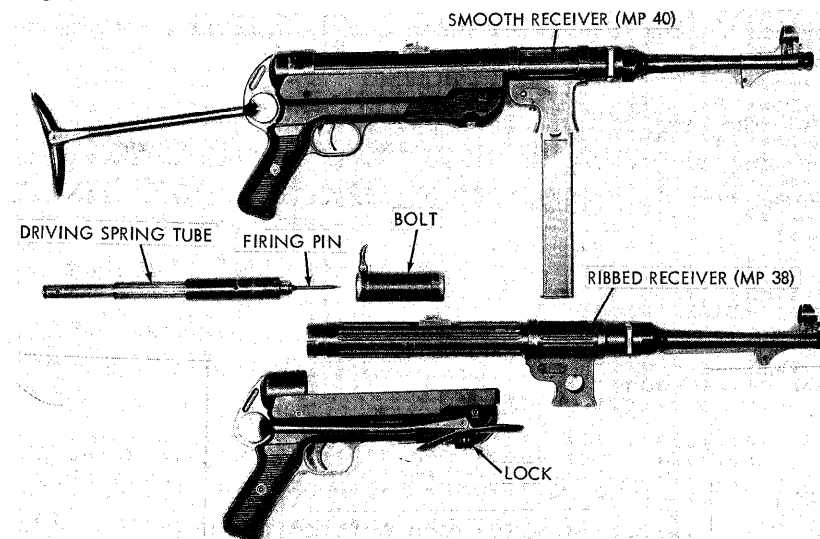

Figure 49. German Model 1938 (bottom) and Model 1940 submachineguns (MP38 and MP40) disassembled.
b. Pull out the lock located at the front end of the frame (fig. 49) and twist it to keep it locked out. Hold the magazine housing firmly, press the trigger, and rotate the frame (by means of the pistol grip) to the right. The frame will disengage from the receiver; ease the frame rearward and remove it.
c. Pull the operating handle about 3 inches rearward and remove the telescoping driving spring tube and firing pin (fig. 49). Draw the operating handle to the rear to remove the bolt.